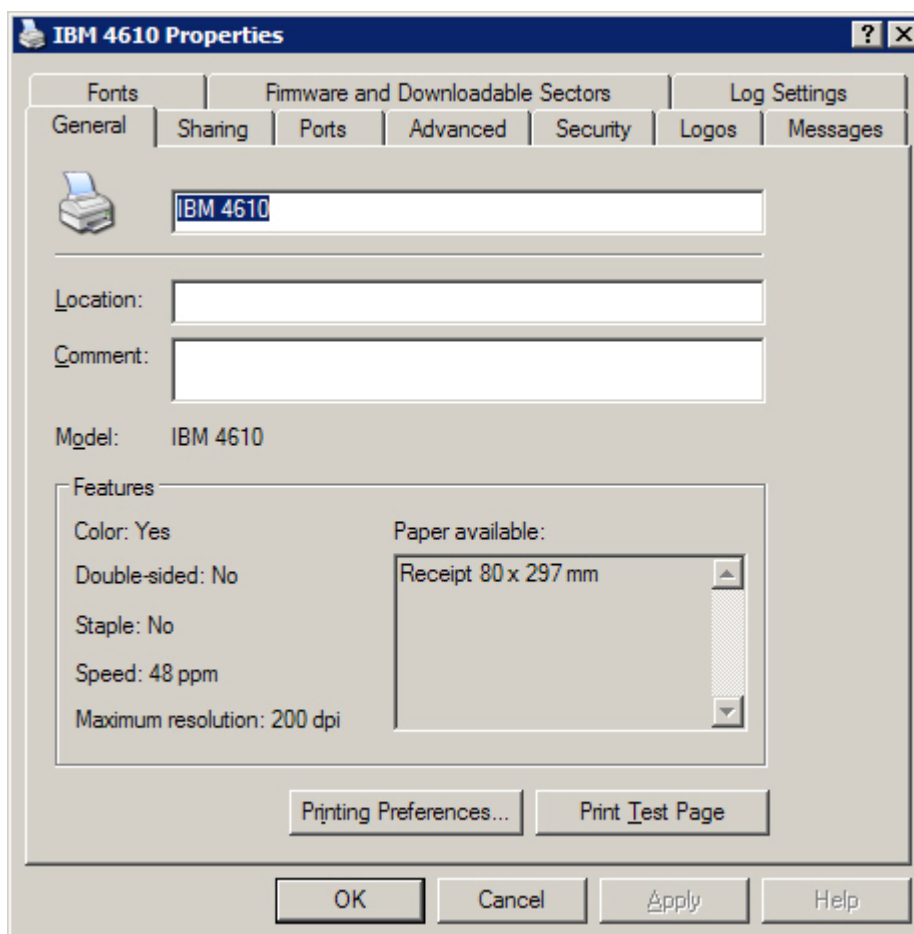

Figure 14. IBM 4610 Properties
2. Right-click the IBM 4610 icon and select **Properties**. The IBM 4610 Properties window opens with the General page selected (see Figure 14).
2. Right-click the IBM 4610 icon and select **Properties**. The IBM 4610 Properties window opens with the General page selected (see Figure 14 on page 20).